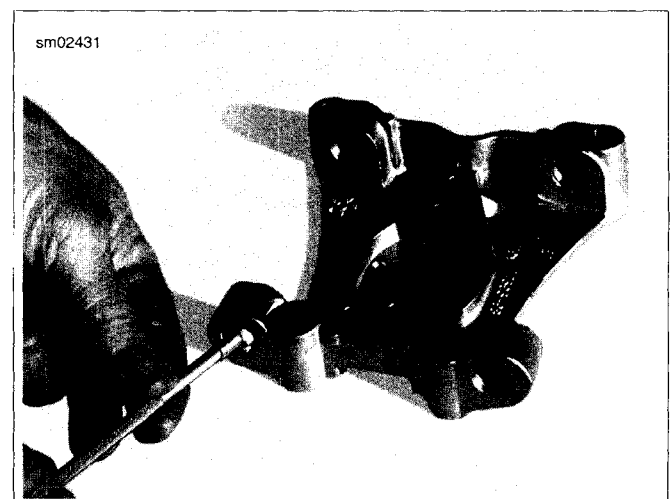

Figure 3-87. Checking Support Plate Bore
1. See Figure 3-87. Measure the inside diameter of the rocker arm support plate bore.